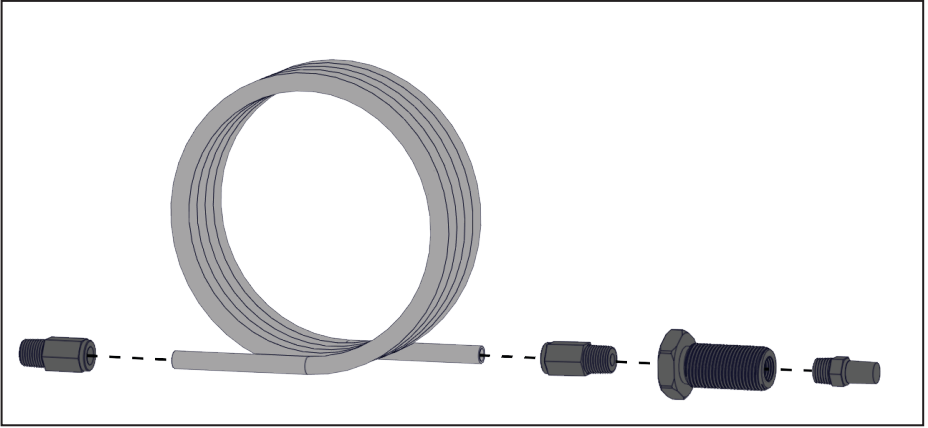

Figure 31 — Tubing Installation Remote Blowdown Muffler assembly
- Install the tube into the push-to-connect bulkhead fitting (Figure 31)